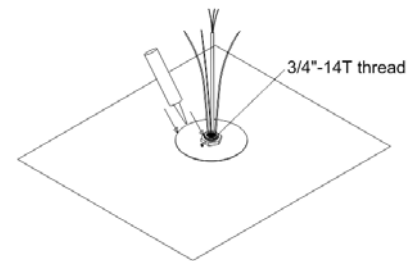

Fig. 3
3. Fasten the small screw on the side of the locknut to prevent from loosen. If the mounting surface was not flat, sealant should be applied surround the plate and each screws. See fig. 3.